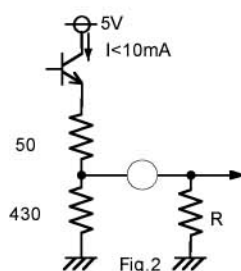

Fig.2
5. The terminal of R,G,B output pin (Pin 27, 30, 35). It is possible to add a pull-up resistor according as drive ability. but set the value of resistor in order that the current is under 10mA . Setting the value of R is more than 500 as shown in Fig.2 .